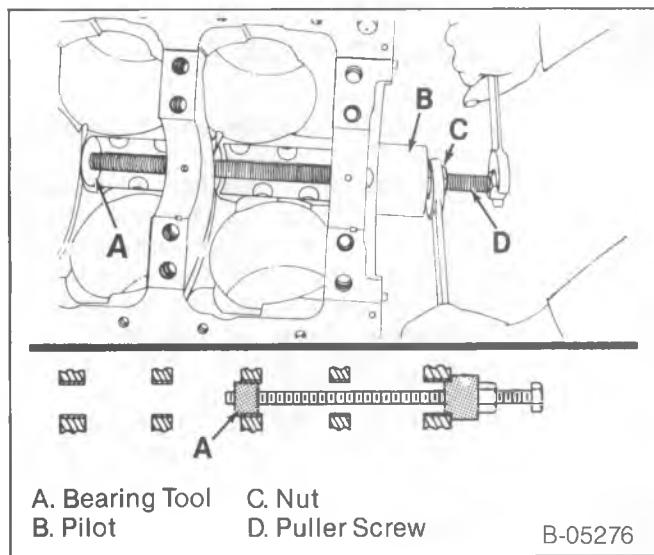

Figure 19—Removing or Installing the Inner Camshaft Bearings
Disassemble (Figures 19 and 20)
- Inner camshaft bearings. Use J 6098-01 (figure 19).
Assemble (Figures 19, 20, and 21)
- Inner camshaft bearing. Use tool J 6098-01 (figure 19).